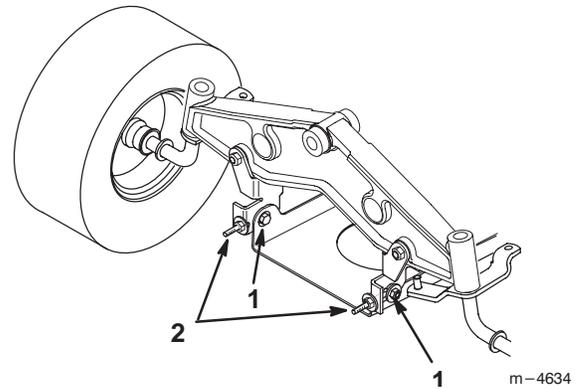

Figure 52
7. To adjust front-to-rear blade slope loosen front pivot plate mounting bolts slightly (Fig. 52).
8. Rotate lock nuts on eyebolts to change adjustment (Fig. 52). To raise the front of the mower tighten the eyebolt lock nuts. To lower the front of the mower loosen the eyebolt lock nuts.
10. When front-to-rear slope is correct, tighten the pivot plate mounting bolts (Fig. 52).